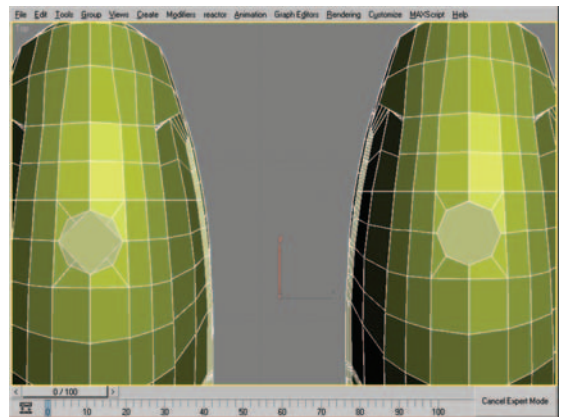

Figure 8.85 Vertex positions before and after using Move tool to align with the guide object. Edge Constraints must be active for this to work properly.
10. In the top viewport, use the Move tool to move the vertices of the gas cap polygon to match the positions of the cylinder guide object. Figure 8.85 shows the base mesh before and after aligning the vertices to the guide object.